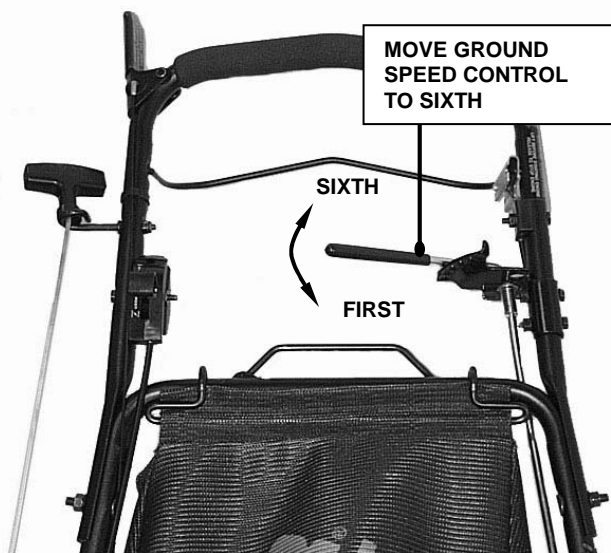

FIGURE 4.7
1. Place ground speed control in the number six speed position. See Figure 4.7.